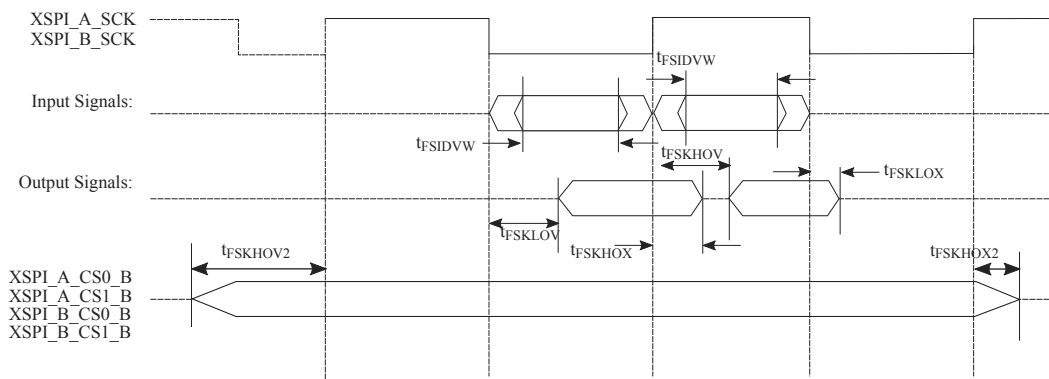

Figure 40. FlexSPI DDR mode 1 and 2 AC timing diagram
1. Refer the FLSHxyCR1 QorIQ LX2160ARM for more details, where x: A or B, y: 1 or 2 2. For DDR, Unit Interval (UI) is half of period. For example, 5 ns for 100 MHz 3. See "Data Learning Feature" section in QorIQ LXxxxxARM for details 4. See Figure 37 . 5. See Figure 38 . 6. See Figure 40 . 7. T = FlexSPI clock period
4. See Figure 40.